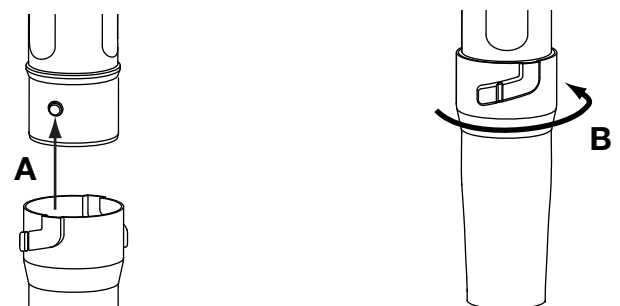

Fig. 5
7. Align the bump slot on the top end of the nozzle with the bump on the bottom end of the second lower blower tube (Fig. 5, A).
8. Insert the bump on the second lower blower tube into the bump slot on the nozzle (Fig. 5, A).
9. Twist the nozzle clockwise around the second lower blower tube until the nozzle bump locks into place (Fig. 5, B).